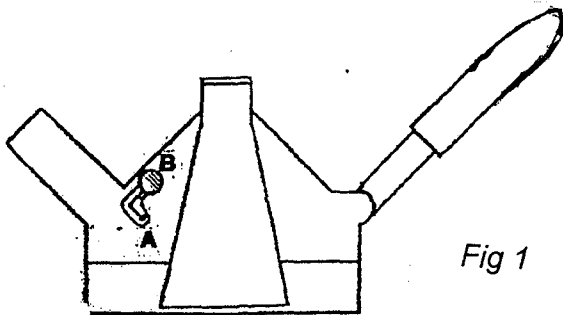

Fig 1
2. Unlock Millennium Fittings by moving the red safety lock nut along the slot from position A into position B. Whilst holding the nut in position B pull back the red handle (see Fig 1). The Millennium Fitting is now in the unlocked position ready for fitting.